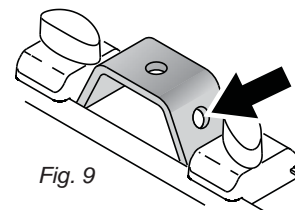

Fig. 9
- Complete the rigging procedure by securing the Touring Pixel Driver with a safety wire using the hole in the mounting bracket shown in Fig. 9